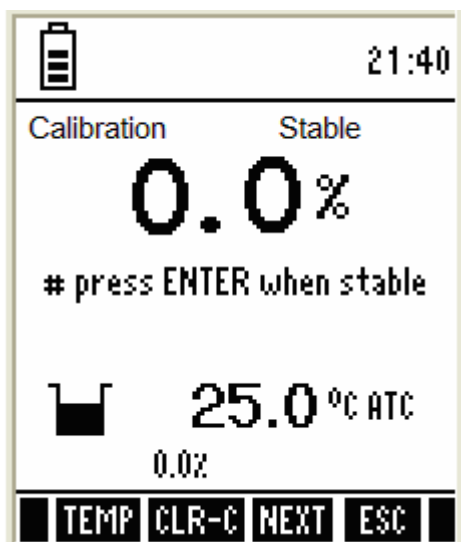

Figure 60 : 0% saturation calibration Screen
4. The meter then shows saturation calibration screen [Figure 60].